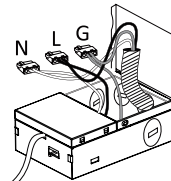

Figure 2
2. Open the J-Box cover and remove the appropriate knockout(s) on the side panel. Install the appropriate cable clamp(s) (not included) and insert the electrical supply cable through the cable clamp. Connect the ground wire to the copper wire terminal, hot wire to the black wire terminal and neutral wire to the white wire terminal using the connectors provided (see Fig 2).